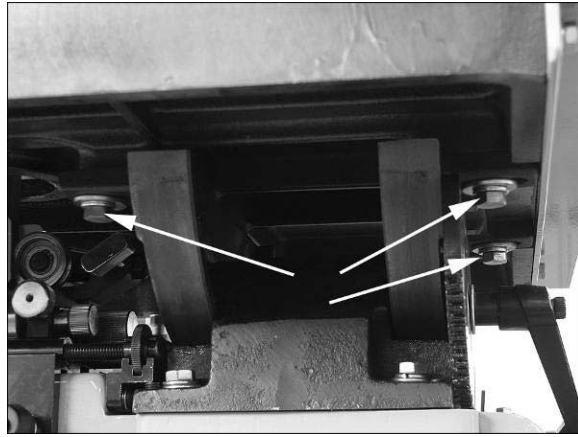

Figure 14
5. If the miter slot is not parallel to the blade, loosen the four *hex cap screws* that secure the table to the trunnion (Figure 14 shows three of them), and shift the table as needed until the miter slot is parallel to the blade.